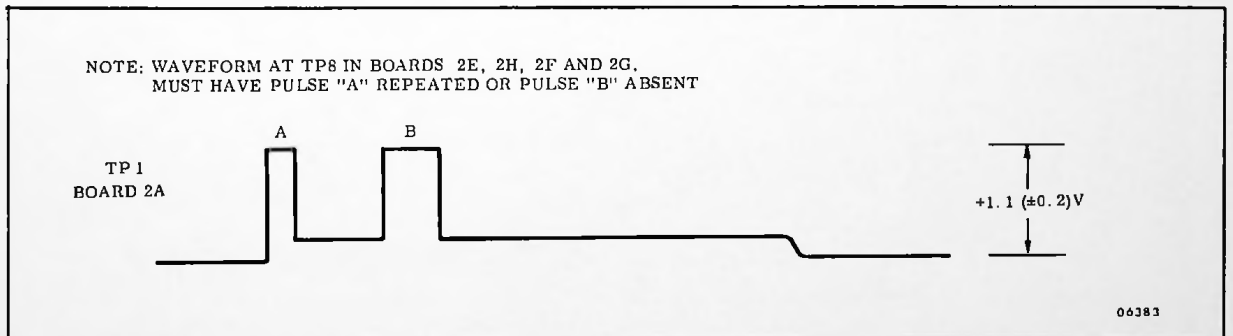

Figure 5.2-8. Typical Memory Board Pulse Train
- c. Connect the probe to TP1, board 2A. The waveform should resemble that shown in Figure 5.2-8.